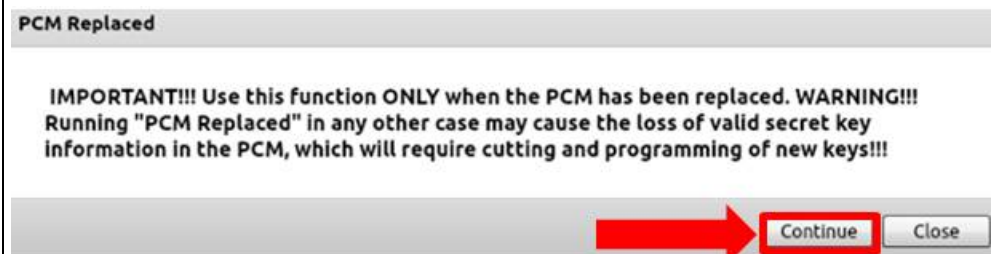

Figure 7
7. This screen shows a WARNING that running the “PCM Replaced” procedure may cause a loss of valid secret key information in the PCM. To finish installing the preprogrammed WIN the secret key information in the PCM must be changed, so selecting “Continue” is the correct response (Figure 7).